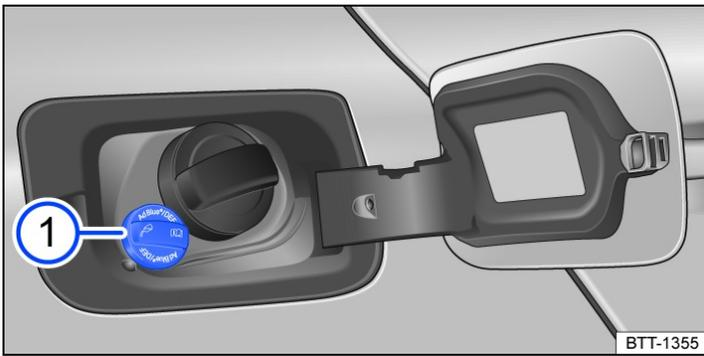
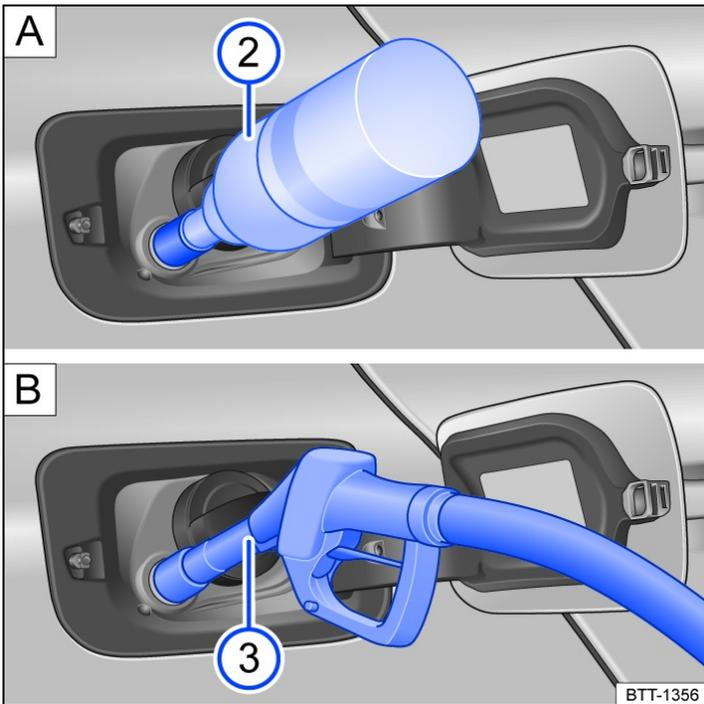

Fig. 1 Behind the tank flap: tank cap for AdBlue (illustration).
Fig. 2 Behind the tank flap: refilling AdBlue with the **A** refill bottle or **B** nozzle (illustration).
Key to → Fig. 1 , Fig. 2:
The AdBlue® filler neck is located behind the tank flap next to the tank filler neck for fuel → Fig. 1.
- Hold the AdBlue® filler nozzle so that the handle is facing down in order to ensure optimum filling → Fig. 2 ⓘ.